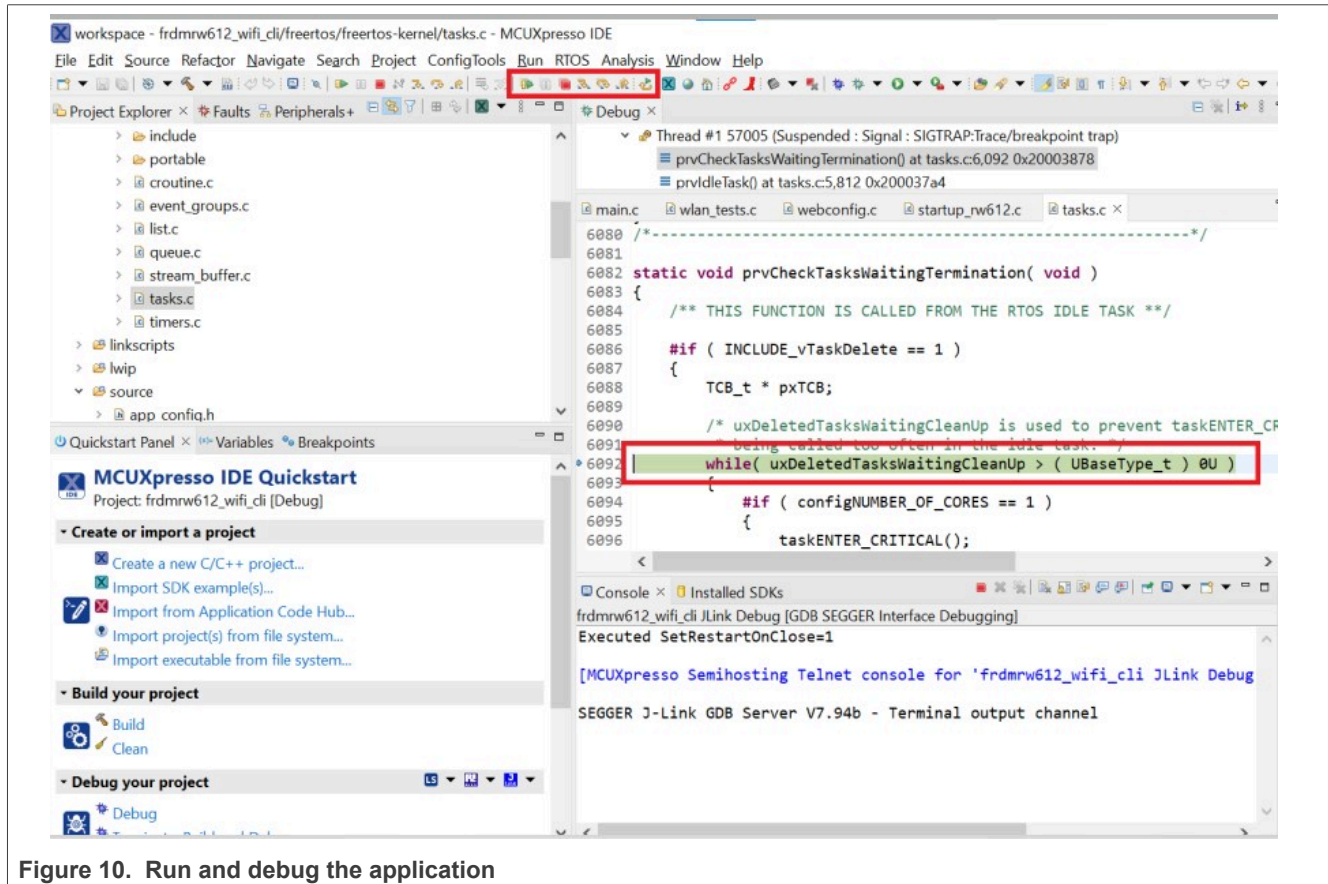

Figure 10. Run and debug the application
- To debug the application, use the **step into**, **step over** and **step return** buttons (Figure 10)
- To end the debugging session, use the **Terminate** button (Figure 10)